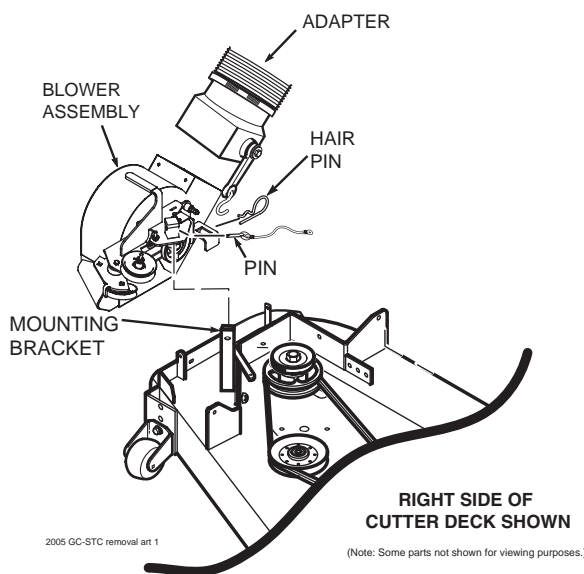

FIGURE 4-1
3. Remove the rubber strap holding the adapter to the blower assembly. See Figure 4-1.
4. Remove the belt, pin and large hair pin securing the blower assembly to the cutter deck and remove the blower assembly. See Figure 4-1.